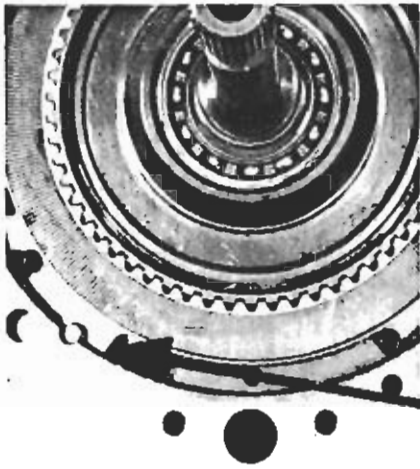

Figure 24 Location of odd lug
**STEP 34** Assemble a steel reverse clutch plate (81) locating the odd shaped lug over a dowel which is located at lower left side of case, figure 24. Repeat steps 33 and 34 until three friction and two steel plates have been assembled.